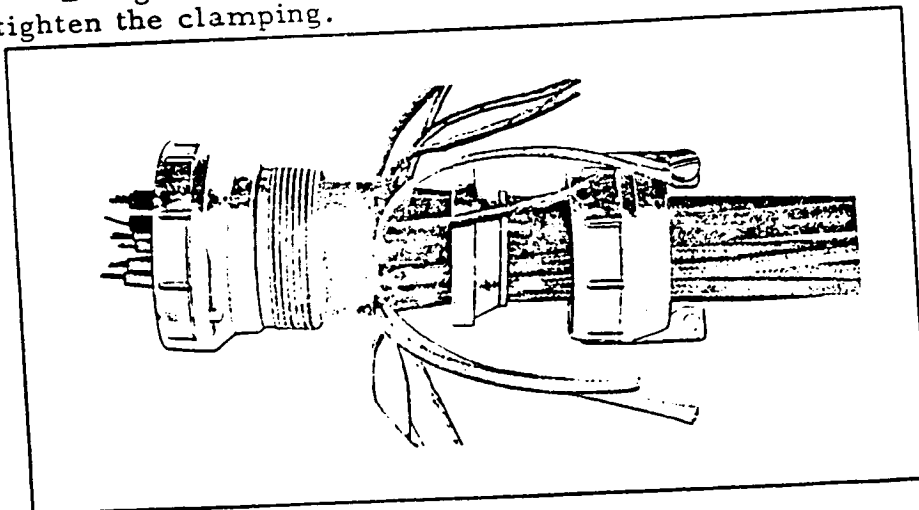

Figure 15
- c. Bring out the braided wire as shown in figures 15 and 16. Seat sleeve, and tighten the clamping.